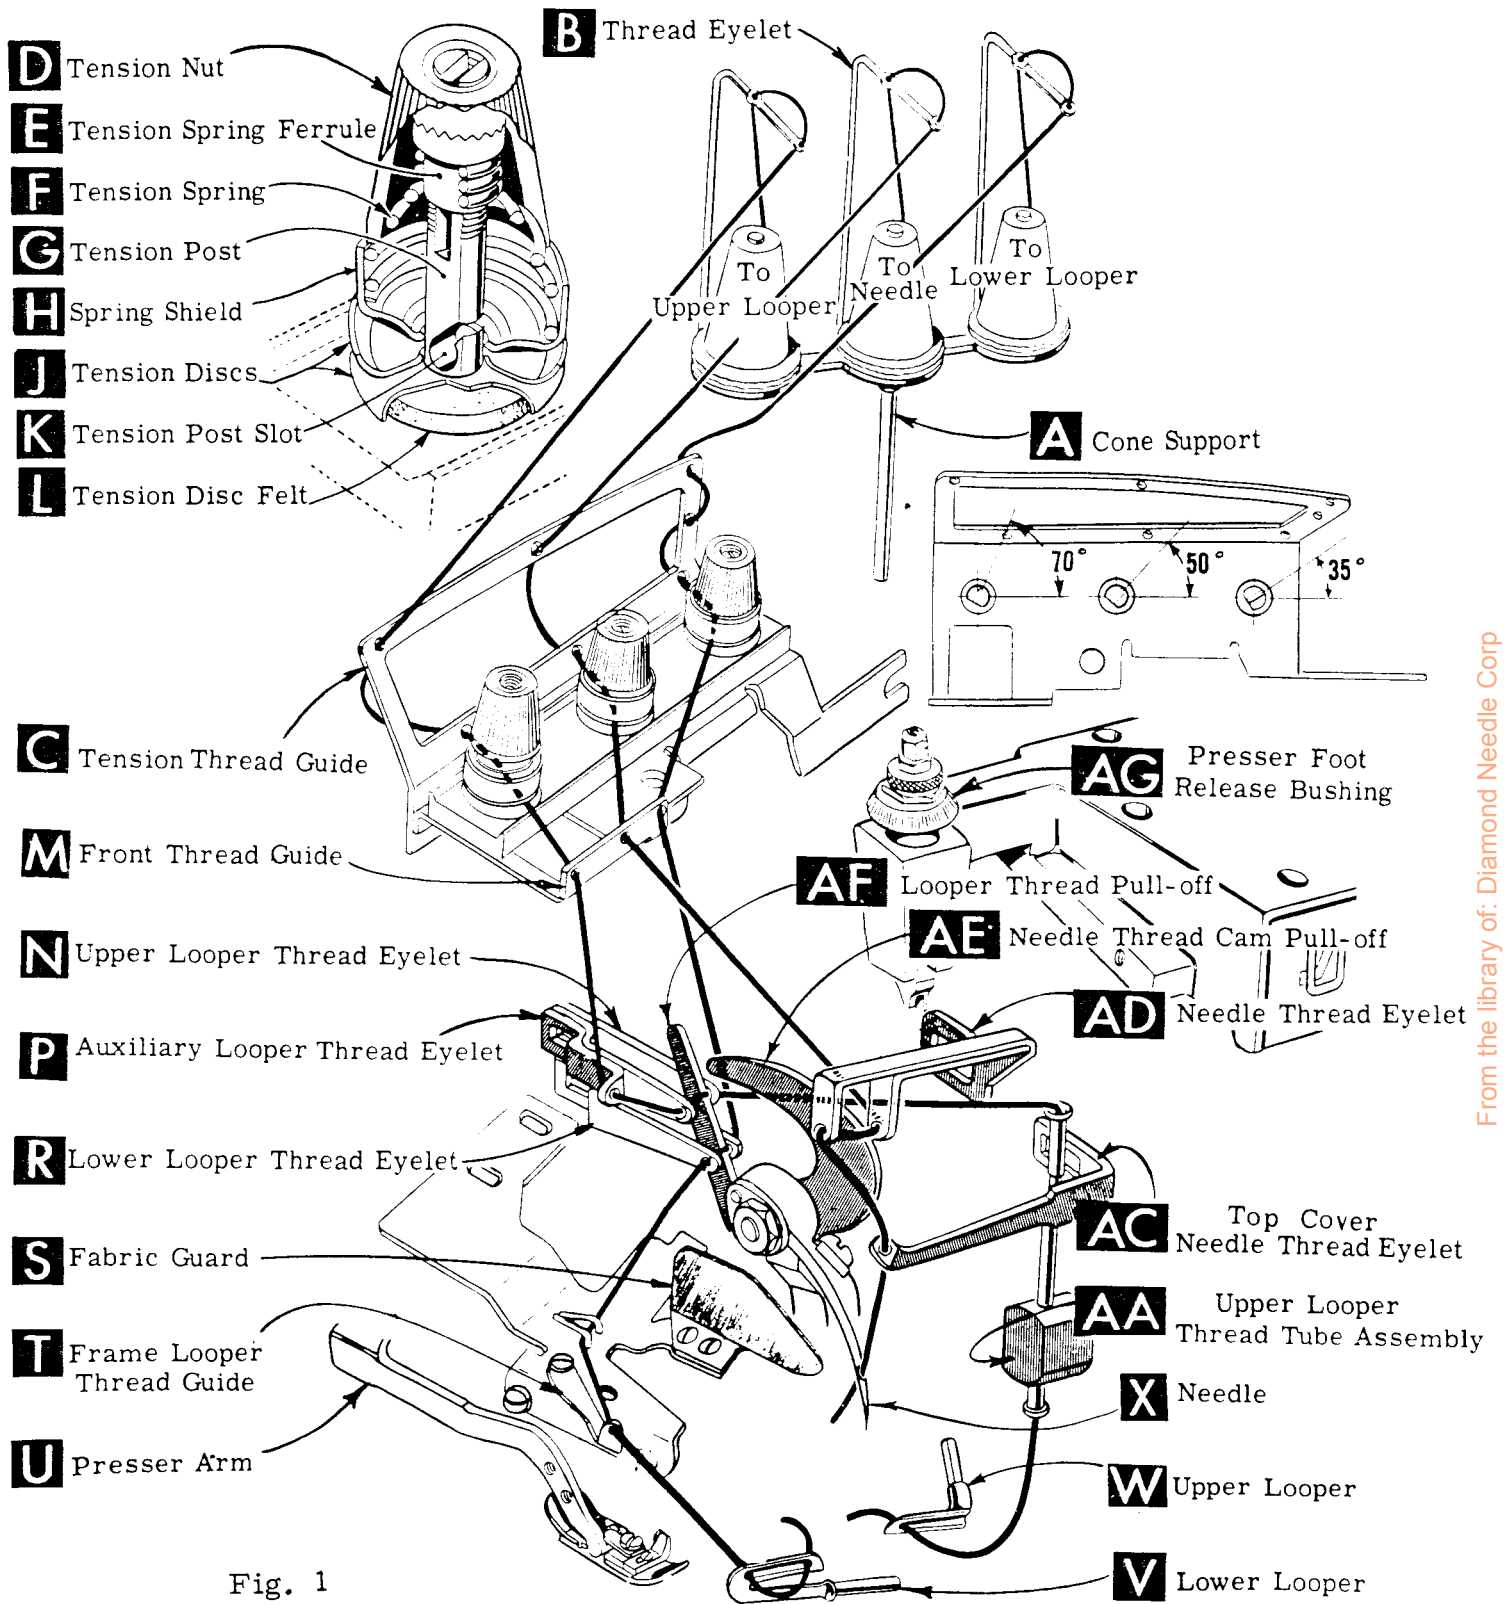

Fig. 1
Release pressure on presser foot by turning presser foot release bushing (AG, Fig. 1) and swing presser arm (U) out of position. Turn handwheel in operating direction until needle is at its lowest point of travel. Using hexagonal socket wrench No. 21388 AU, furnished with machine, loosen needle clamp nut about 1/4 turn. Again turn handwheel until needle is at high position; withdraw needle.
After thread comes from cones on cone support (A, Fig. 1), it is brought up through back hole of thread eyelet (B), then down through the front hole of thread eyelet. Next it is threaded through the upper holes of tension thread guide (C) from front to back and then through the lower holes from back to front. It should be noted that the lower looper thread is threaded through the tension thread guide (C), first through the upper hole back to front, second through the middle hole front to back and third through the lower hole back to front. All threads then continue between the tension discs (J), through tension post slot (K) in tension post (G) and on through front thread guide (M).
Only parts involved in threading are shown in threading diagram (Fig. 1). Parts are placed in their relative positions for clarity.
Thread lower looper thread through right eyelet of front thread guide (M). Then double end of thread and lead it through both eyes of lower looper thread eyelet (R, Fig. 1) from right to left. Note: thread must pass in front of looper thread pull-off (AF). Lead thread behind fabric guard (S) and through eyelet hole of frame looper thread guide (T). Turn handwheel in operating direction until heel of lower looper (V) is all the way to the left; then thread through both eyes from left to right. Left eye of lower looper can be threaded easily if tweezers are in left hand.
Thread needle thread through middle eyelet of front thread guide (M). Then turn handwheel in operating direction until needle (X, Fig. 1) is at its highest position. Insert needle thread from right to left, through both eyes of needle thread eyelet (AD), under neck of top cover casting; then down through hole in top cover needle thread eyelet (AC). Thread needle from front.
The amount of tension on needle and looper threads is regulated by the tension nuts (D, Fig. 1). Tension on threads should be only enough to secure proper stitch formation.
Be sure machine is threaded according to threading diagram (Fig. 1). With thread tensions light, set looper thread eyelets (N and R) about horizontal and in the middle of their front to back locations. Operate machine slowly, without presser foot in place, to make sure that chain forms and moves off the tongue freely. Swing presser foot into position, insert material and sew slowly.
While sewing on material, check needle thread control as follows: Usually all needle thread is drawn on needle downstroke. At top of needle stroke, thread should be just tight enough to feed chain off stitch tongue. Stitch tends to pull down slightly if excessive thread is pulled on the upstroke. With needle at bottom of stroke, position needle thread eyelet (AD, Fig. 1) so that needle thread cam pull-off (AE) just contacts needle thread.
With material under presser foot, set lower looper thread eyelet (R, Fig. 1) back far enough so thread is a little slack when looper thread pull-off (AF) reaches its most rearward position. Looper thread pull-off (AF) is set about 1/8 inch distance behind needle thread cam pull-off (AE). Frame looper thread guide (T) should be set with its eyelet approximately 1/8 inch to the right of lower looper (V) heel eyelet at the time lower looper is at extreme left end of its travel.